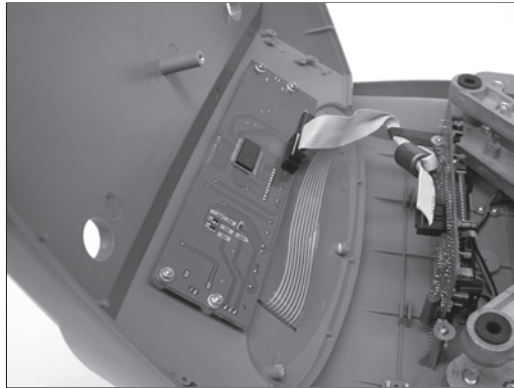

Figure 4-10. Disconnecting the Ribbon Cable.
2. Disconnect the Ribbon Cable from the Display PC board. See Figure 4-10.